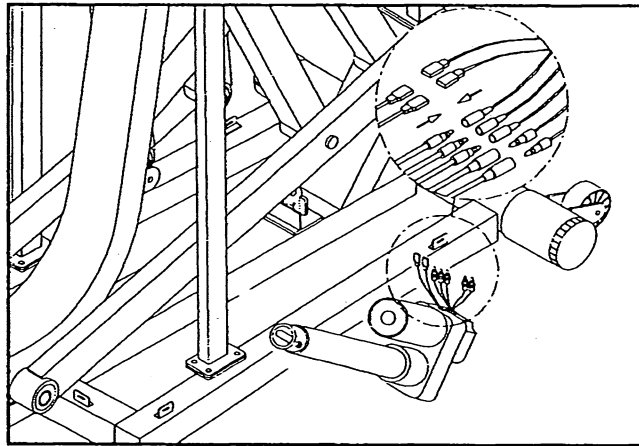

Fig.8-5
2. Plug all the harnesses and connectors of the VR based on their colors individually (see fig.8-5)